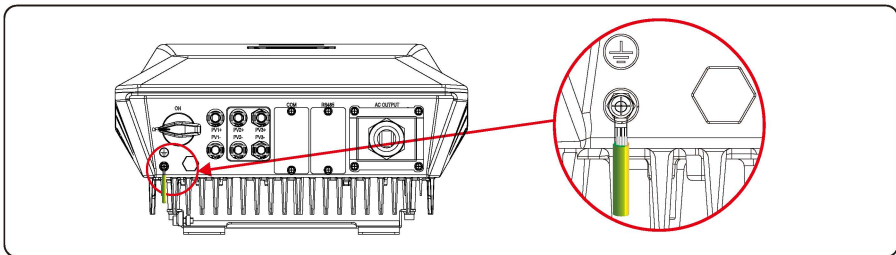

Figure 5.3 Securing the PGND cable
Step 3 Secure the PGND cable (done by step 1 & 2) using the ground bolts and tighten the bolts to a torque of 1.2 N·m using a socket wrench. Ensure that the PE wire is grounding well and impedance between earth wire and neutral wire is no more than 10 Ω , as shown in Figure 5.3.